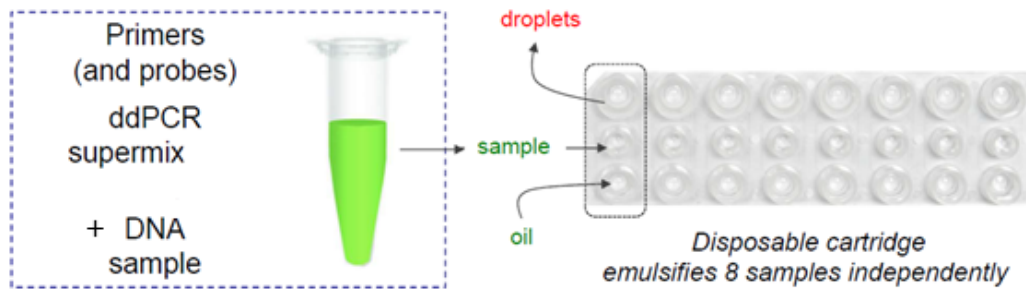

Figure 1: DG8 cartridge filling
- Dispense the following volumes into the corresponding cartridge compartments (Figure 1):
- With the multi-channel pipet, transfer slowly $40 \mu\text{L}$ of droplets generated from the top line of the cartridge (Figure 1) into the ddPCR 96-well plate.